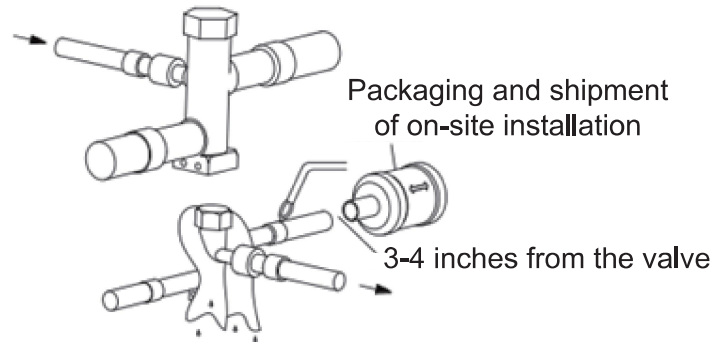

Figure 7.4
4. Wrap the valve body with a wet rag to avoid thermal damage, and continue the dry nitrogen purging (Figure 7.4).